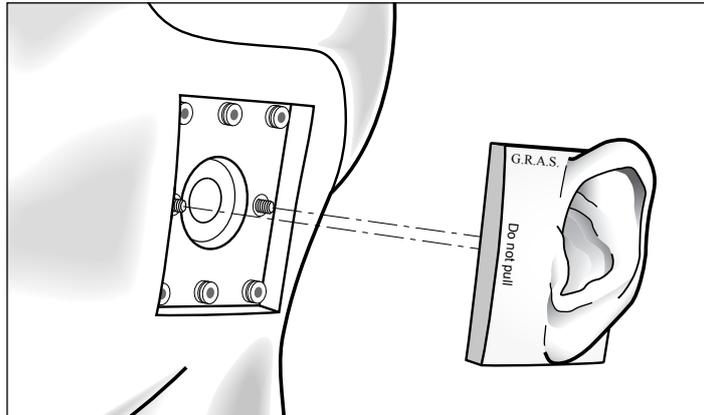

Fig. 38. The mounting method for the anthropometric pinna.
As shown in Fig. 38, the anthropometric pinna is secured to the KEMAR head with two M3 finger screws from the inside of the head. These screws ensure that the pinna seals correctly against the KEMAR head and the artificial ear. They also ensure that the sealing is not affected by mounting and removal of the device under test. Before removing the pinna, these screws must be removed.
1. Loosen the two finger screws shown in Fig. 38.
1. Mount the ear onto the studs, see Fig. 38.